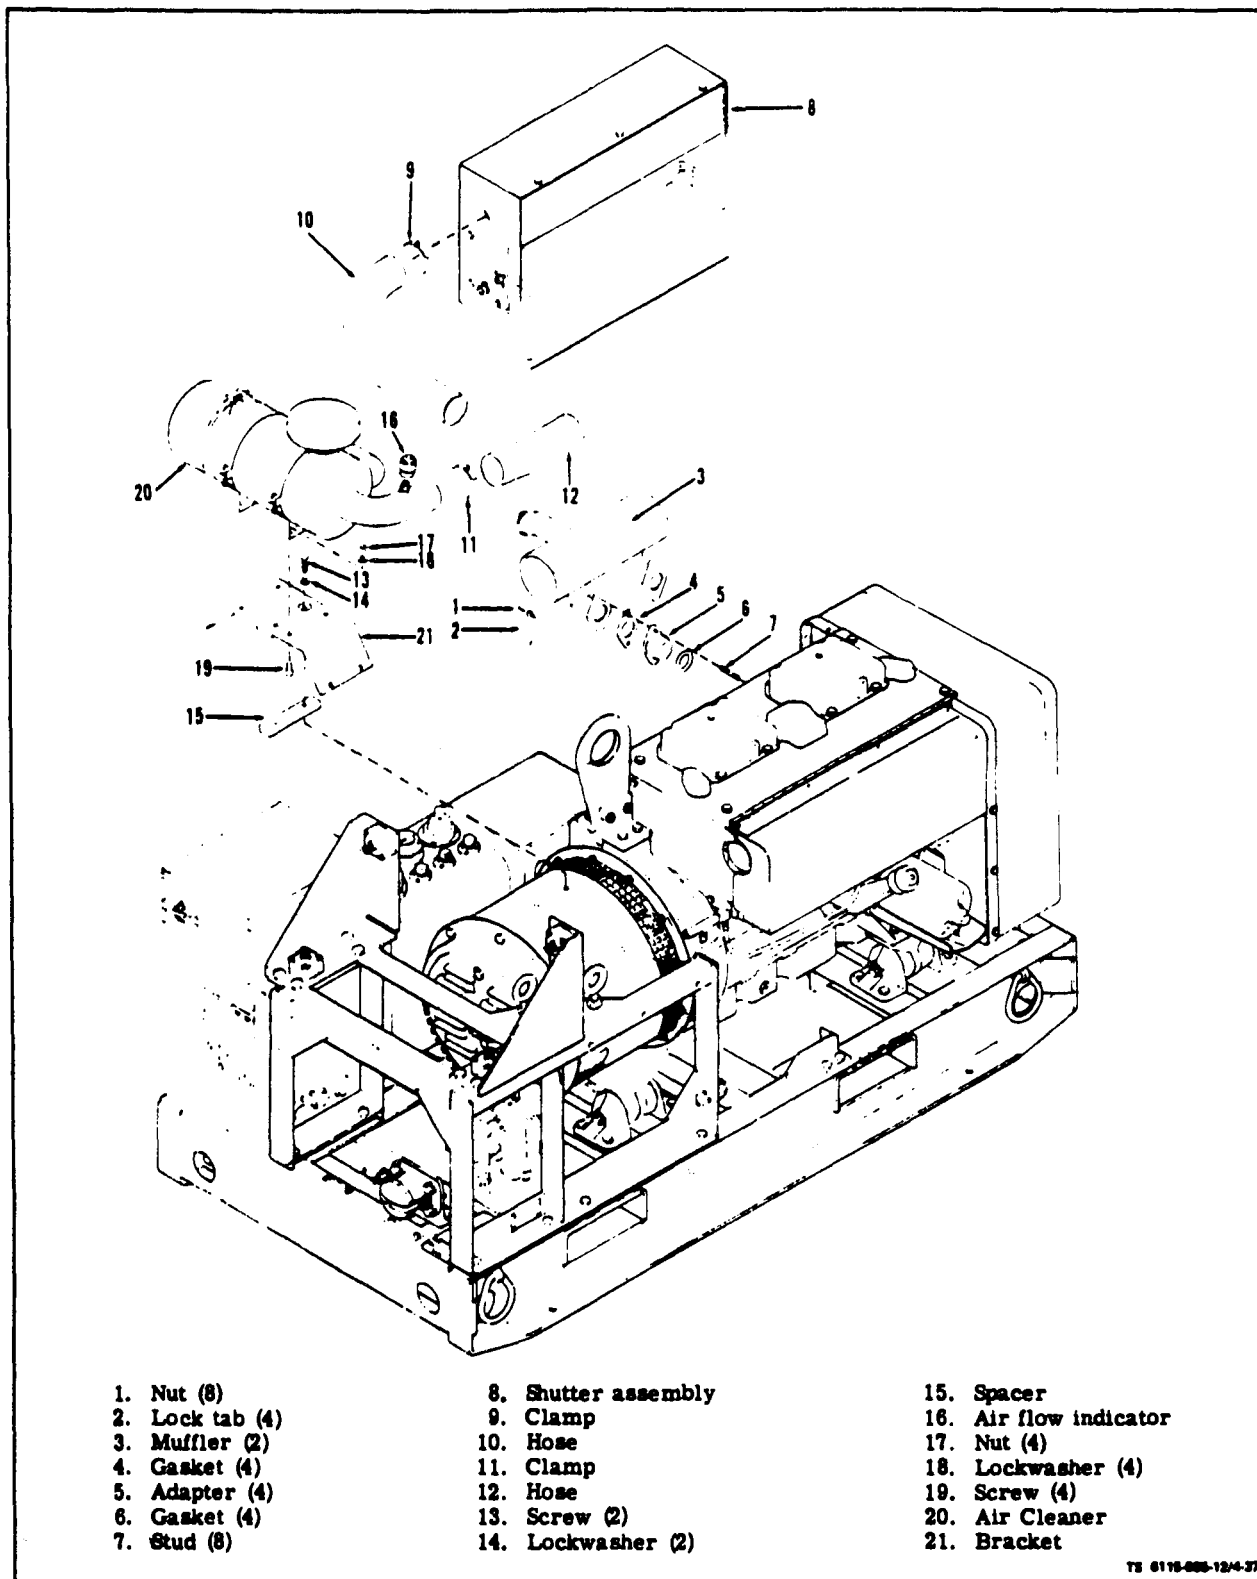

Figure 4-37. Exhaust Muffler and Air Cleaner Assemblies.
a. Inspect (see figure 4-37). If engine exhaust is noisy or if exhaust gases are detected from shutter assembly, indications are that muffler (3) or gaskets (4) and (6) may be defective.
b. Remove. Remove shutter assembly as outlined in paragraph 4-17. Bend lock tabs (2) down and remove four nuts (1) holding muffler (3) in place. Remove lock tabs (2), mufflers (3), muffler gaskets (4), adapters (5) and adapter gaskets (6) from each cylinder head.
c. Replace. Place gaskets (6), adapters (5) in place on each cylinder head. Slide new muffler gaskets (4), muffler (3), and lock tabs (2) over studs (7) in cylinder head and secure to cylinder head with nuts (1).
a. Inspect (see figure 4-37). On ASK equipped generators, open air intake door and air cleaner door.
(1) Air Cleaner Assembly. Check air cleaner assembly for corrosion, broken or dented components or split hoses.
(1) Air Cleaner Assembly. Weld and straighten air cleaner housing as necessary.
(2) Mounting Bracket (see figure 4-37). If bracket (21) is split or bent, weld and straighten bracket as necessary. After completing repairs, check that bracket securely attaches air cleaner to set.
(1) Air Cleaner Assembly (see figure 4-37). Install air cleaner (20) on bracket (21) and secure with screws (19), lockwashers (18) and nuts (17). Install air flow indicator (16) on air cleaner.
(2) Install air cleaner, bracket and spacers (15) on generator housing and secure with lockwashers (14) and screws (13). Install hoses (10 and 12) and secure with clamps (9) and (11).